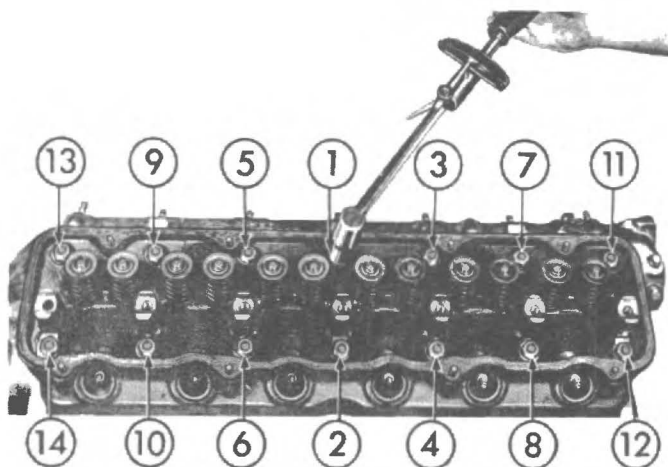

Fig. 7 - Cylinder head tightening sequence.
(1) Clean all gasket surfaces of cylinder block and cylinder head and install spark plugs.
(2) Check all surfaces with a straight edge if there is any reason to suspect leakage.
(3) Coat the new gasket with a suitable sealer. Install gasket and cylinder head.
(4) Install cylinder head bolts. Starting at top centre, tighten all cylinder head bolts to 65 lbs./ft., in sequence (Fig. 7). Repeat the procedure retightening all head bolts to 65 lbs./ft.